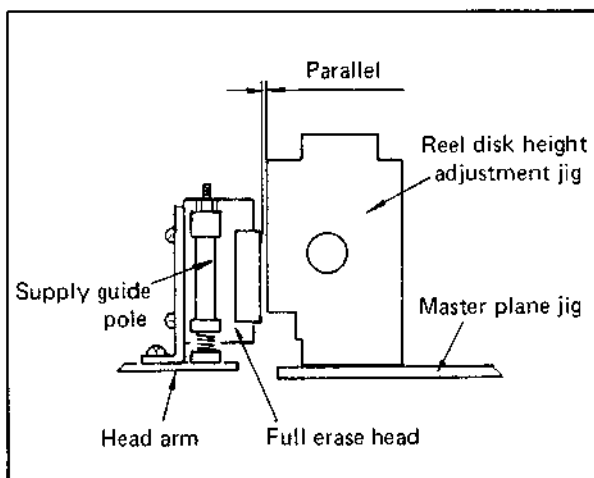

Fig. 4-17
3. Employ the height adjustment jig as shown in Fig. 4-17. Check that the full erase head and supply guide pole are essentially parallel with the jig.